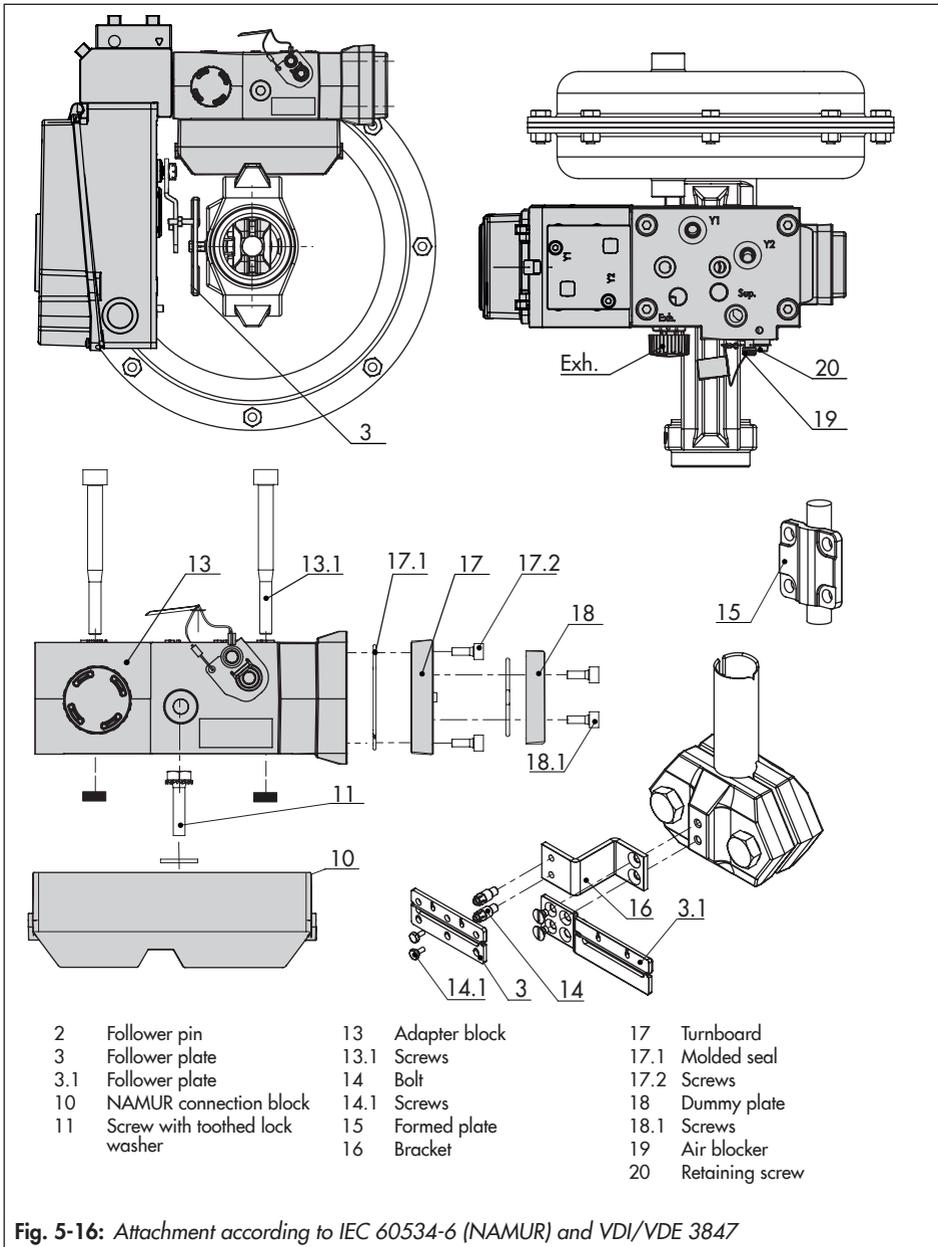

Fig. 5-16: Attachment according to IEC 60534-6 (NAMUR) and VDI/VDE 3847
- ➔ See Fig. 5-16
1. **Series 240 Valves, actuator size up to 1400-60 cm²:** Screw the two bolts (14) to the bracket of the stem connector or directly to the stem connector (depending on the version), place the follower plate (3) on top and use the screws (14.1) to fasten it.